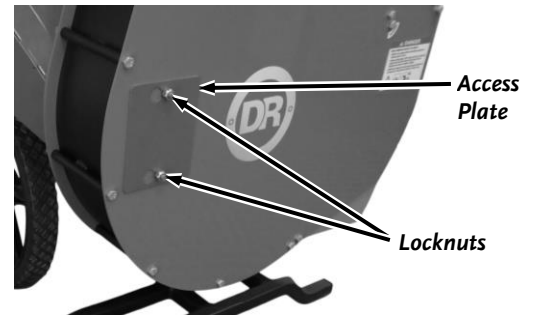

Figure 13
1. Loosen the Locknuts on the Access Plate using a 1/2" Wrench, slide the Plate to the side to align the holes with the Locknuts, and remove the Access Plate (**Figure 13**).